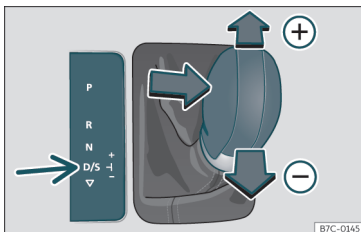

Fig. 198 Centre console: changing gear with tiptronic
- Move the selector lever forwards to select a higher gear >>> **Fig. 198**.